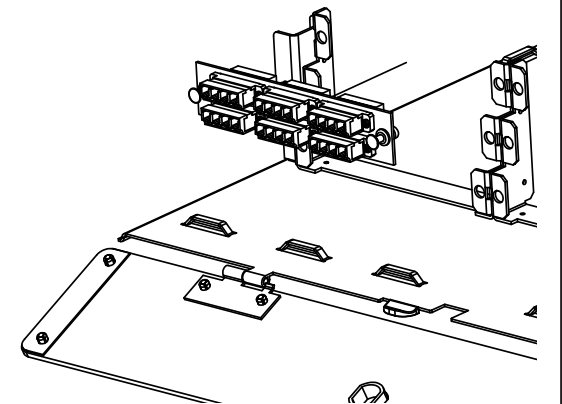

Figure 8
5.1 Mounting Adapter Panels: (See Figure 8)